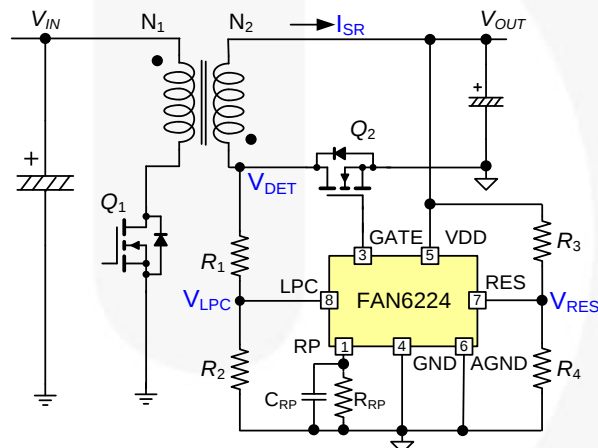
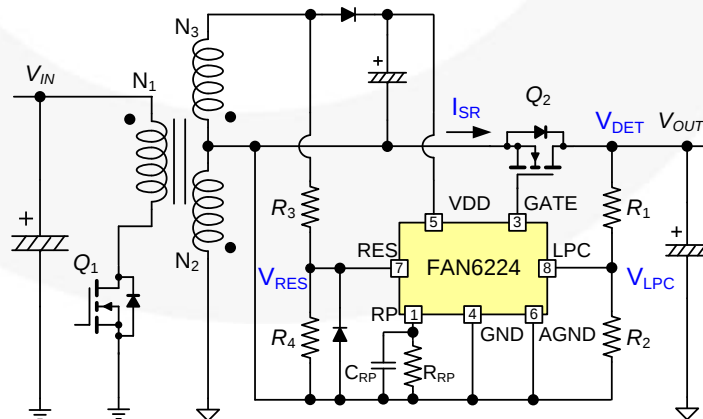

Figure 1. Typical Application Circuit for Low-Side Flyback Converter
Figure 2. Typical Application Circuit for High-Side Flyback Converter
This document is the evaluation board user manual for the synchronous rectification controller, FAN6224. This device is designed for secondary-side rectification of flyback converters. It is suitable for Continuous Conduction Mode (CCM), Discontinuous Conduction Mode (DCM), and Quasi-Resonant (QR) operation. With proper design, it can be applied for flyback high-side and low-side rectification, as the typical application circuits show in Figure 1 and Figure 2. In addition, it is capable of forward free-wheeling rectification. The maximum operating frequency is up to 140 kHz.
Refer to the typical application circuit in Figure 1 for the following design procedure.
Refer to the typical application circuit in Figure 2 for the following design procedure.